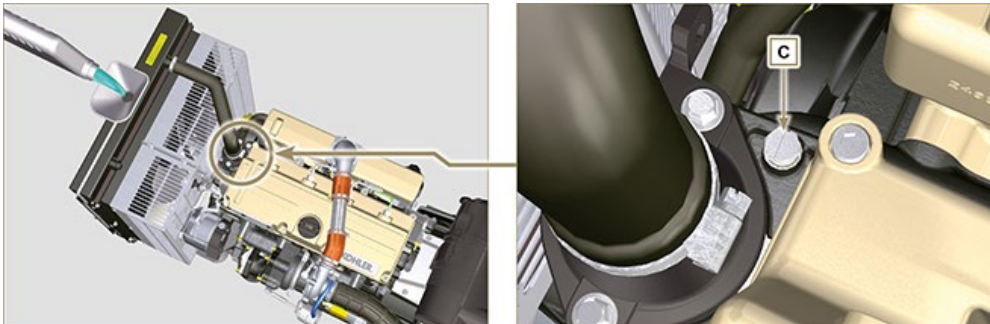

Fig. 4.5
4. Loosen the screw **C**, release any air and tighten the screw **C** (Tightening torque of **8 Nm** - Fig. 4.5).